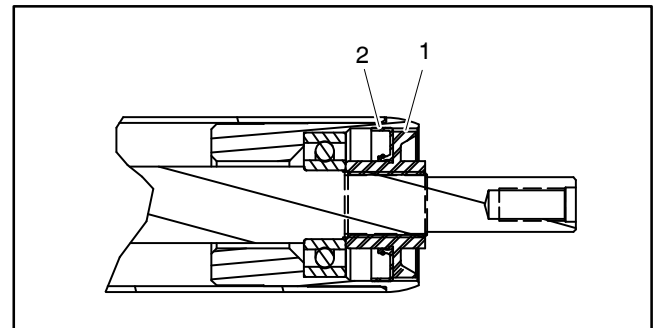

Figure 39
7. Install a nut with seal onto each end of the roller shaft. Tighten nuts until they bottom against bearings (Fig. 39). Remove nuts from roller shaft.